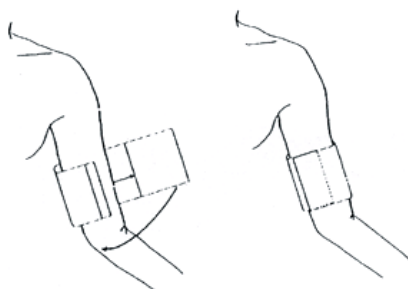

Figure 11-20 Applying Cuff
2. Apply the blood pressure cuff to the patient's arm or leg following the instructions below (Figure 11-20).